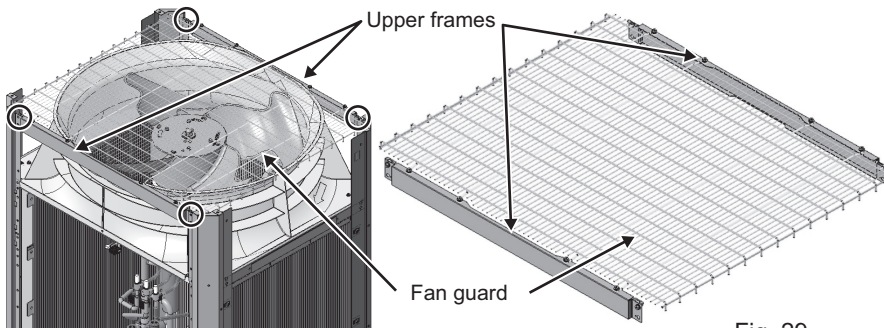

Fig. 29
(6) Remove the fan guard and the upper frames. (Four screws: Fig. 29)